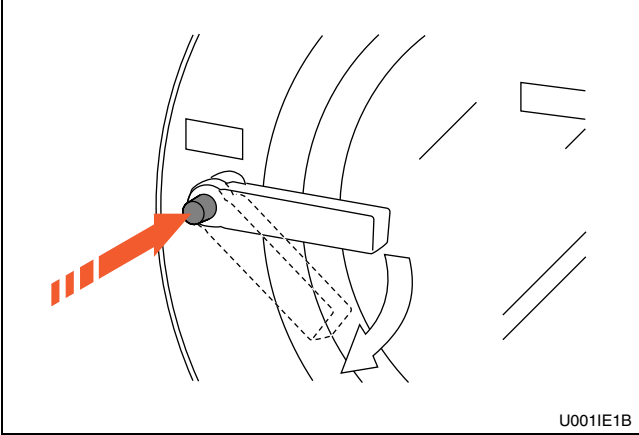

Figure 9
- 2. Push button and turn handle clockwise to open. Refer to *Figure 9*.